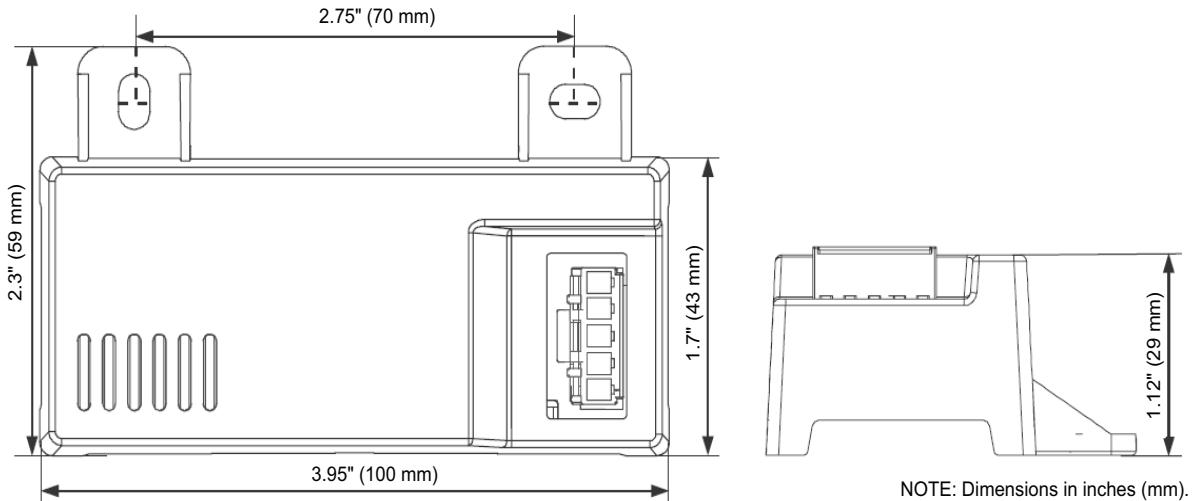
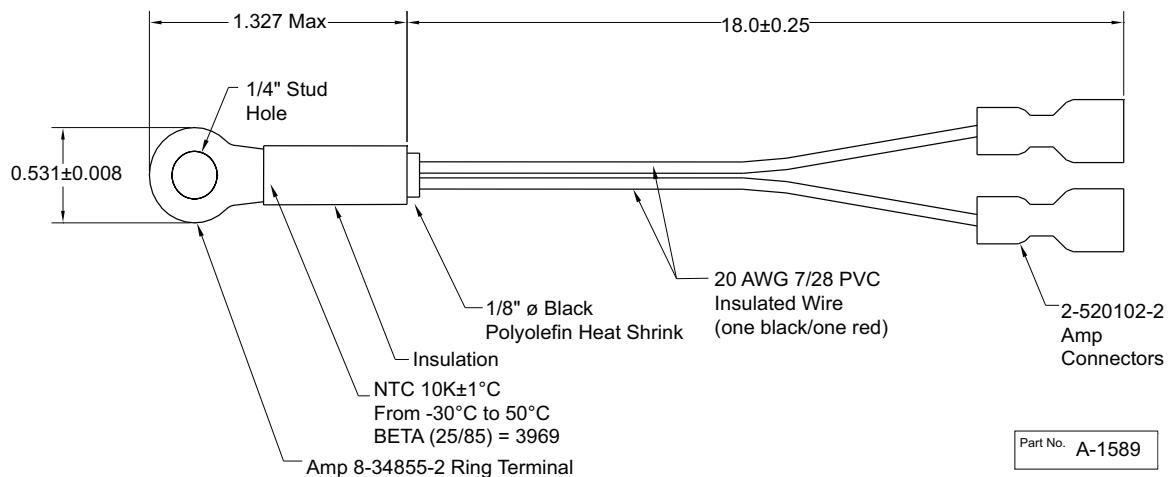
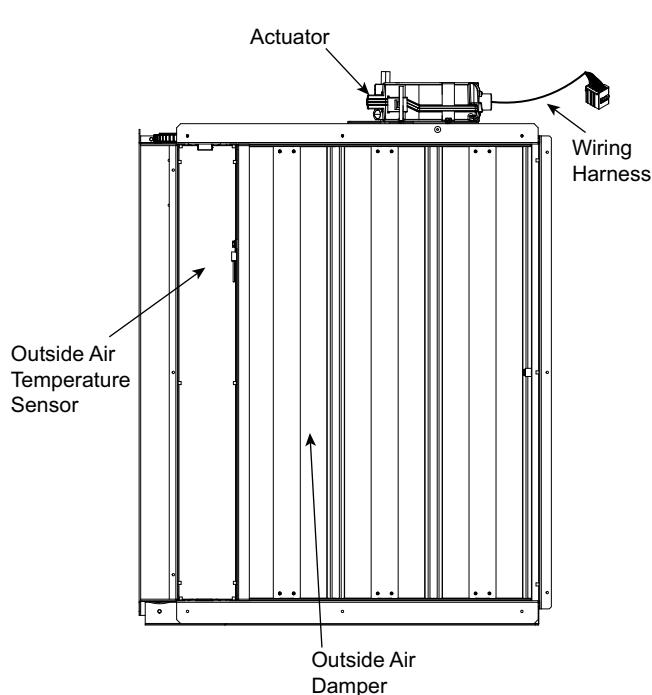

Fig. 79 — HH57LW001 Dimensional, Connection and Switching Information
Fig. 80 — HH79NZ039 Dry Bulb and Mixed Air Sensor Wiring
Fig. 81 — EconomizerONE Component Locations (CRECOMZR108A00 Shown)
When using the HH57LW001 enthalpy sensor (see Fig. 79) for outside air changeover, the existing HH79NZ039 dry bulb sensor (see Fig. 80) must be removed. The enthalpy sensor will be mounted in the same location as the dry bulb sensor (see Fig. 81). When the enthalpy sensor's OA (Outside Air) temperature, enthalpy, and dew point are below their respective setpoints, the outside air can be used for free cooling. When any of these are above the setpoint, free cooling will not be available. Enthalpy setpoints are configurable and create an enthalpy boundary according to the user's input. For additional details, see Fig. 82-83 and Table 35.
The optional enthalpy control sensor (P/N: HH57LW001) communicates with the POL224 economizer controller using the 5-wire harness, 48TC005213. The HH57LW001 sensor can be used as a single outside air enthalpy, a differential return enthalpy, or a differential return temperature sensor. Refer to the base unit control wiring diagrams found earlier in this book to wire the HH57LW001 enthalpy sensor for each option. Use Fig. 79 and Table 37 on page 68 to locate the wiring terminals for each enthalpy control sensor.
Economizers are shipped standard with an HH79NZ039 outside air dry bulb sensor (see Fig. 80). System default setting (high temp limit) is 63°F (17°C) and has a range of 48°F to 80°F (9°C to 27°C). Sensor is factory installed on economizer.
If installing the optional HH57LW001 enthalpy sensor, the HH79NZ039 dry bulb outside air sensor must first be removed. Wire sensor to harness 48TC005213 and the (5) wires from the harness to the EconomizerONE harness in the return air chamber. Harness 48TC005213 has a 5-pin plug that connects directly to the HH57LW001 enthalpy sensor. Refer to the base unit control wiring diagrams earlier in this book for wiring connections. Refer to Fig. 79 and Table 37.